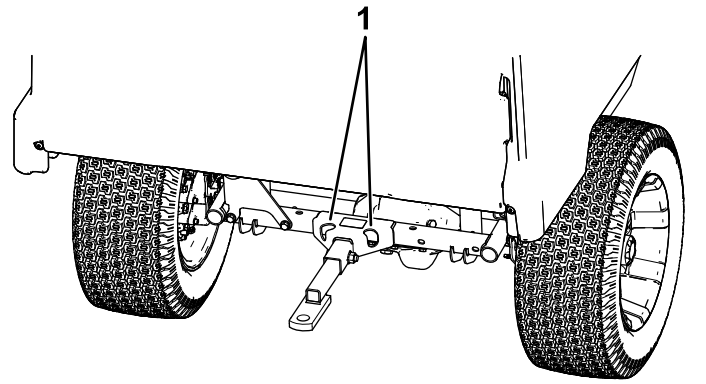
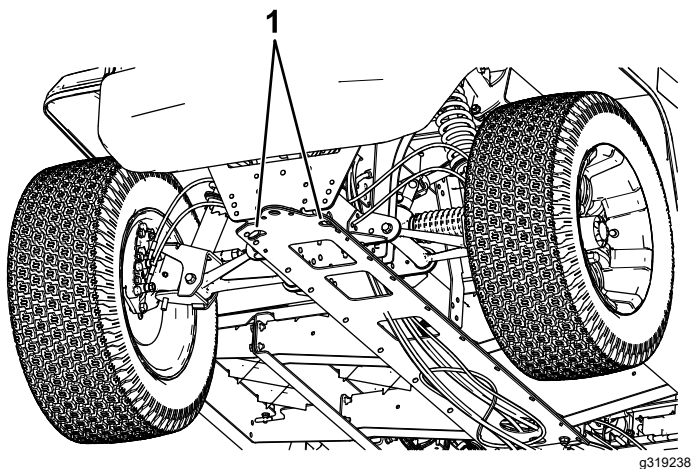

Figure 25
Figure 24
Refer to Figure 24 and Figure 25 for the tie-down locations on the machine.
2. Affix a tow line to the tongue at the front of the machine's frame (Figure 24).